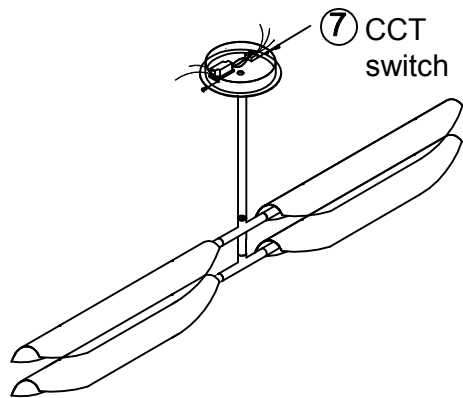

Fig.4
7. Select the desired color temperature by turning the CCT switch: 3000K, 3500K, 4000K.(Fig.4)